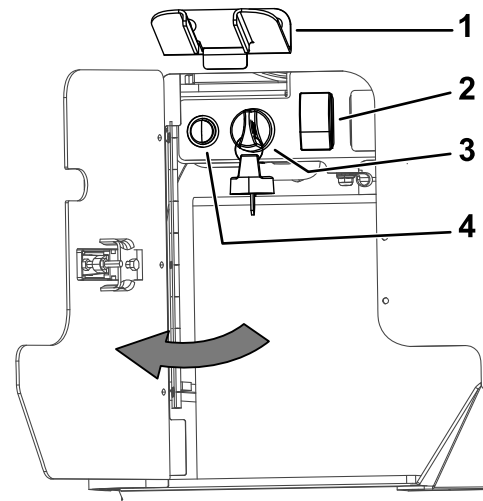

Figure 121
2. Ensure that the spray-hose attachment switch is in the OFF position (Figure 121).